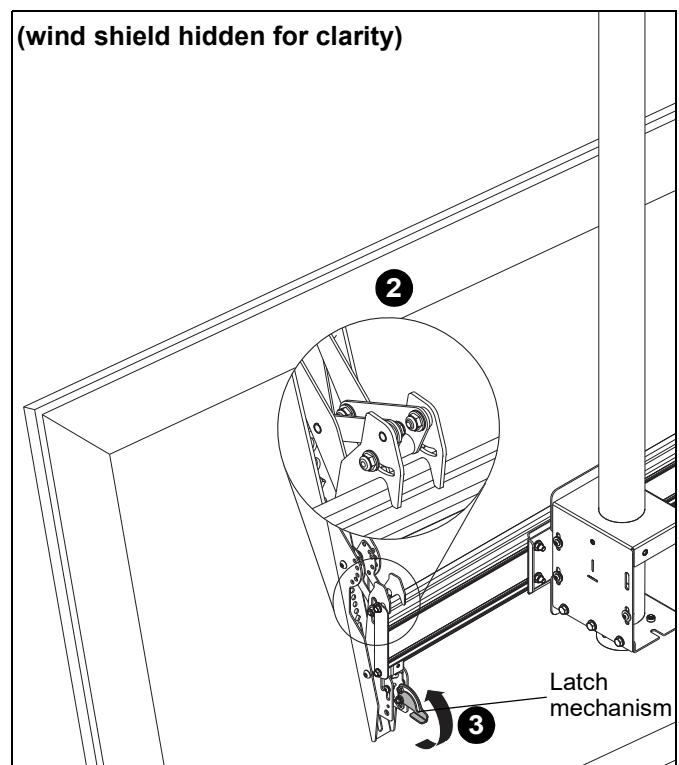

Figure 19
2. While supporting both sides of display, lower display onto ceiling mount, hooking top of interface brackets onto front of ceiling mount. (See Figure 19)
3. Raise the latch mechanism on both interface brackets to lock bracket in place. (See Figure 19)